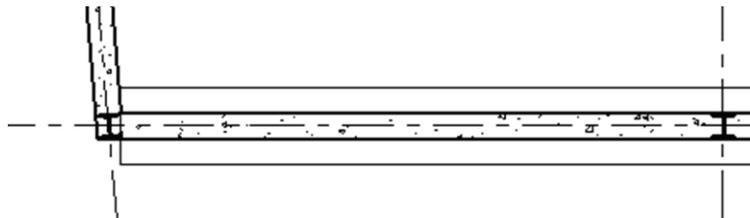

Figure 7–4
- You can flip retaining footings as shown in Figure 7–5